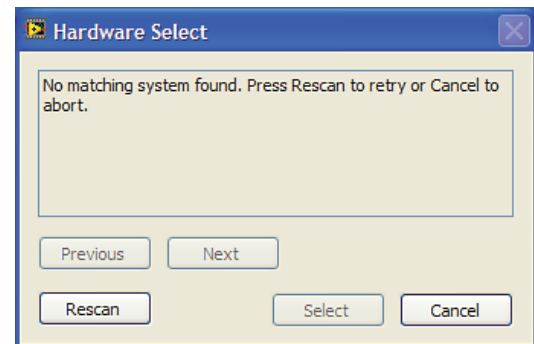

Figure 6. Connectivity Error Alert Dialog Box
2. If the AD7173-8 evaluation system is not connected to the USB port via the EVAL-SDP-CB1Z when the software is launched, a connectivity error displays (see Figure 6). Connect the evaluation board to the USB port of the PC, wait a few seconds, click **Rescan**, and follow the instructions.